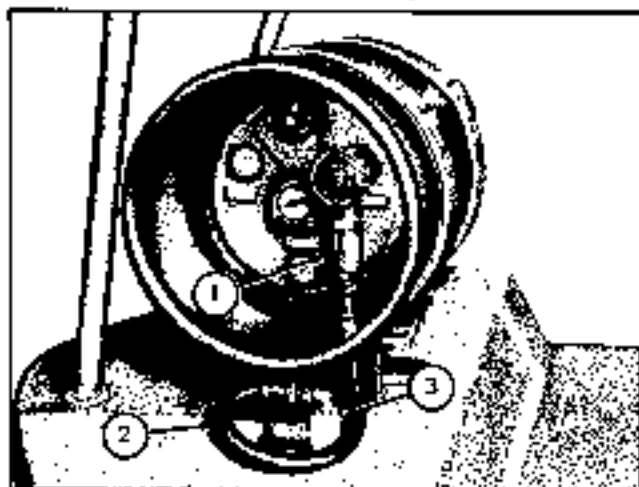

Fig. 129. Tank, supports, and hose
l. Install filter and relief valve assembly in rear hood section. See Fig. 129. Connect 18 inch hose to filter bottom. (This hose connects to solenoid valve.)